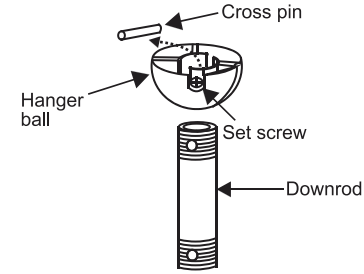

Fig. 9
Step 5. Remove the hanger ball from the downrod assembly by loosening the set screw, unscrewing and removing the cross pin and unscrewing the ball off the rod. (Fig.9)